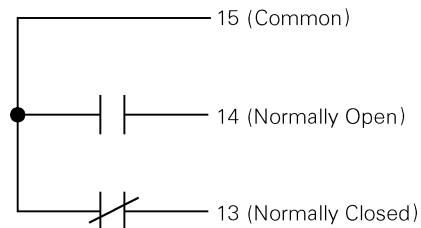

Figure 12. Bell Alarm-Alarm Only connections on the right terminal block. The contacts are shown in the reset state.
The Bell Alarm-Alarm Only provides normally open (NO) and normally closed (NC) outputs available at the terminal block on the right side of the breaker, as illustrated in Figure 12. The outputs change state whenever a breaker trip occurs. This trip can be caused by an overcurrent condition detected by the Trip Unit. This trip can also be generated by the Shunt Trip or Undervoltage Release, if installed with a MicroVersaTrip Plus™ or MicroVersaTrip PM™ Trip Unit, and if the appropriate DIP switches have been set on the back of the Trip Unit (see Section 3-8, *Accessory Configuration at the Trip Unit*).